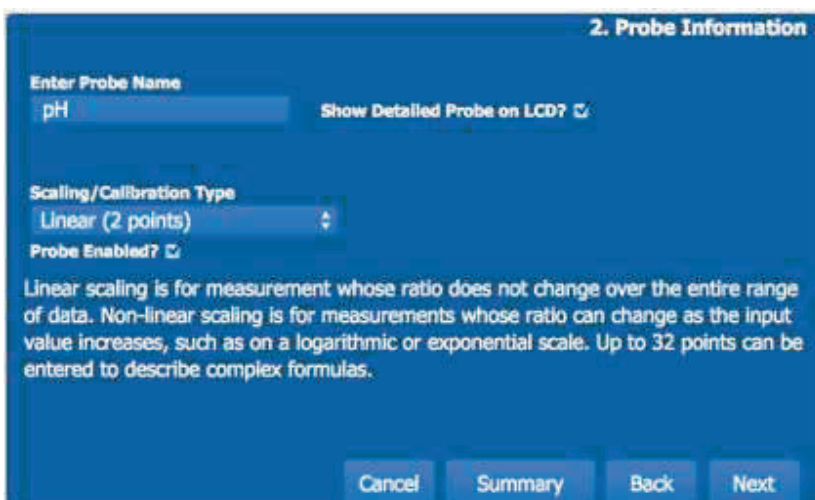

Figure 6-3– After choosing the connector to which the probe attaches choose a name for the probe and the type of scaling.
In the Enter Probe Name field write a short descriptive name for the probe. In the example shown in Figure 6-3, the probe is simply titled "pH."
1. Choose Non-Linear (up to 32 points) in the Probe Information window (Figure 6-3).